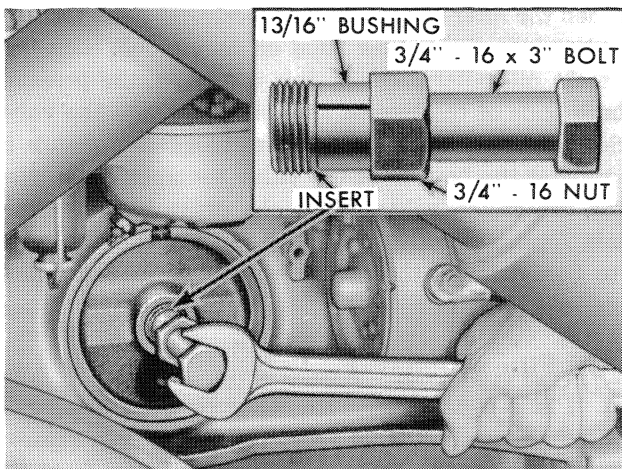

Figure 37—Removing Insert from Cylinder Block
3. Place a $1\frac{3}{16}$ " bushing or washer on a $\frac{3}{4}$ " —16 x 3" bolt and nut as shown in Figure 37. Thread the bolt into the insert in the cylinder block. Tighten the nut on the $\frac{3}{4}$ " bolt to seat the bushing against the insert. Turn the bolt counterclockwise to remove the insert from the cylinder block, Figure 37.